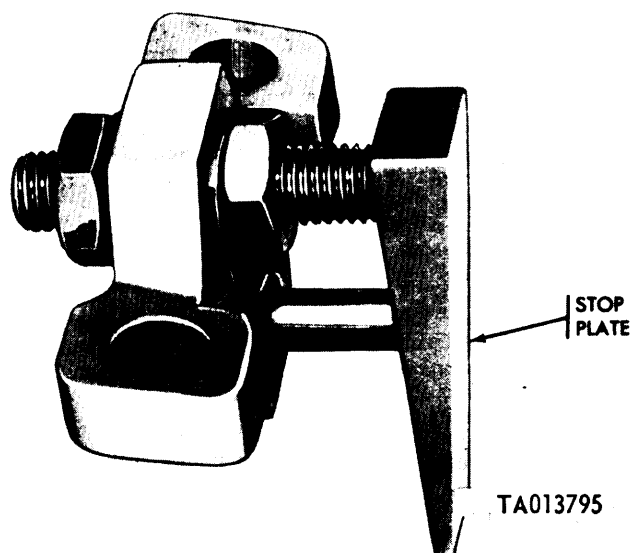

Figure 1-30. Stop plate and bridge assembly (code G).
f. Code G injection pumps are not equipped with a fuel density compensator. They have a stationary stop plate and bridge assembly attached to the governor housing (fig. 1-30). The stop plate and bridge assembly accomplishes the same function as the compensator stop plate except it does not compensate for various viscosity fuels.